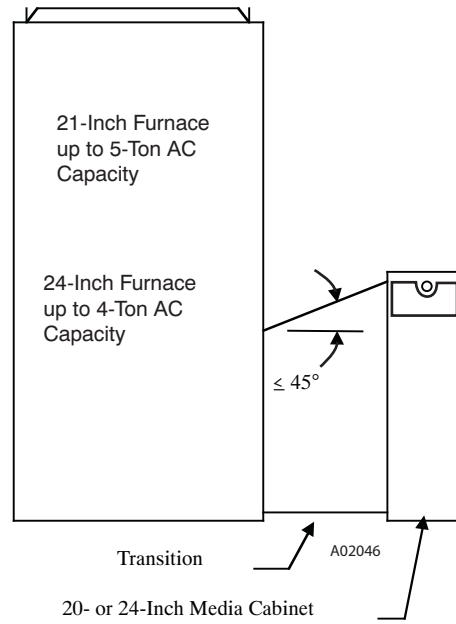

Fig. 20 - 20-or 24-in. MC Installation Option with Angled Transition
- e. The filter cabinet must be mounted with a transition duct using a transition angle of 45° from horizontal, or less. (See Fig. 20.)